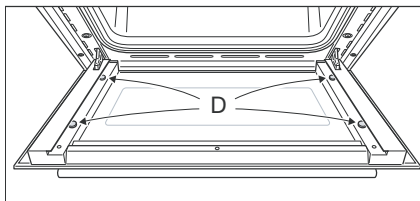

Fig. 26a
- Check that the four rubber pads are in place ("D" in Fig. 26a).